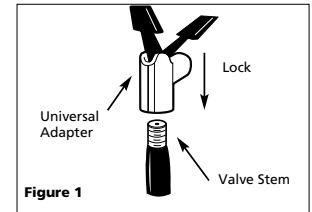

Figure 1
- Attach the universal adapter from the inflator to the valve stem with the lever in the up position. Be sure to press universal adapter down over valve stem threads completely. When universal adapter is firmly in place, press locking lever down to lock onto valve stem (See Fig. 1).